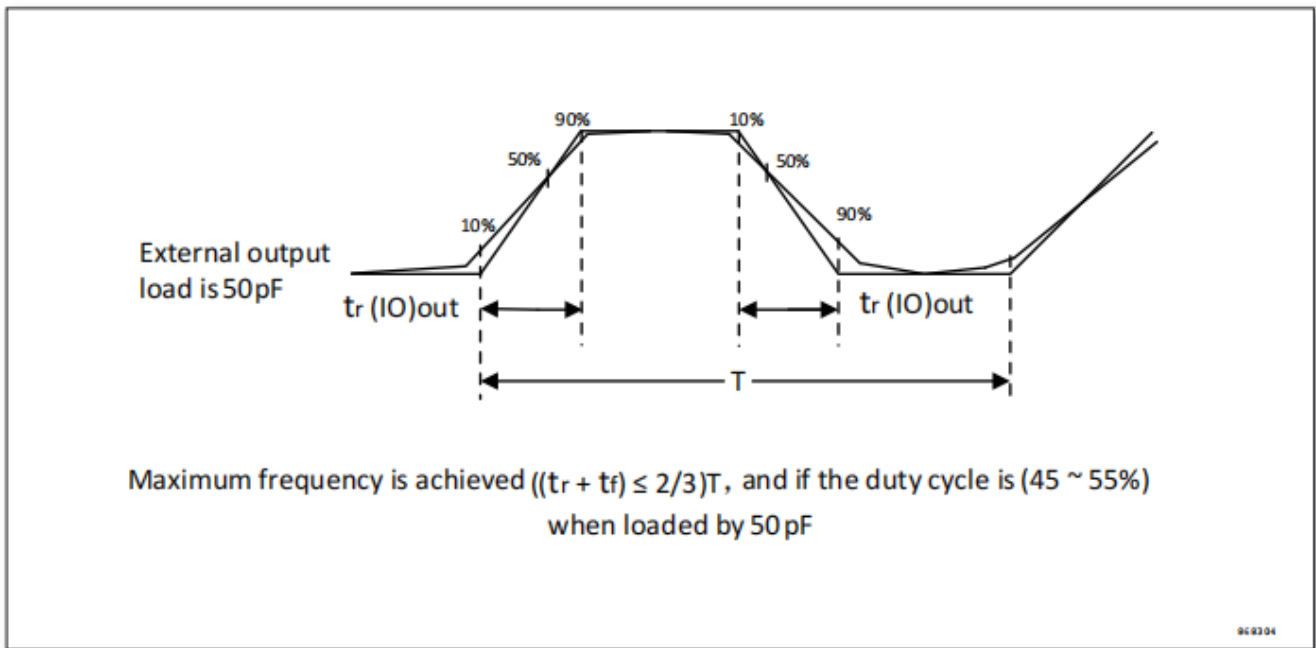

Figure 16 Input/output AC characteristics definition
The definition and values of input/output AC characteristics are given in Figure 16 and Table 34, respectively.
2. The maximum frequency is defined in figure 16.